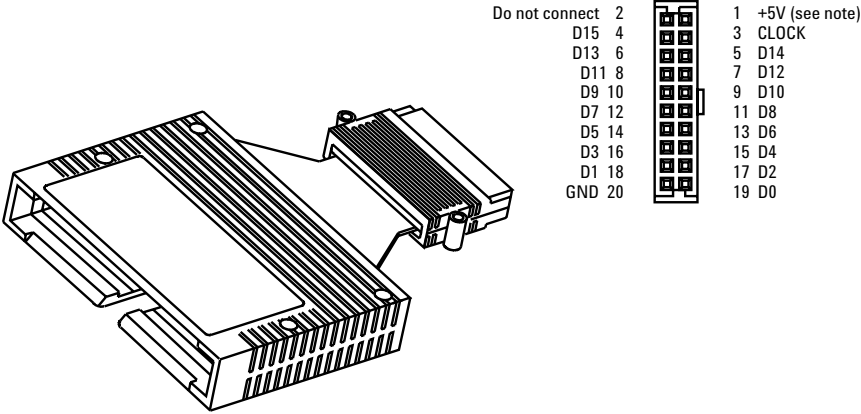

Figure 20. Pinout for 100 kΩ isolation adapter (Agilent part number 01650-63203)
**Note:** The Agilent 01650-63203 saves space by using a common ground (see figure 20). This will impact signal fidelity, especially faster transition times (< 4 - 5 ns).